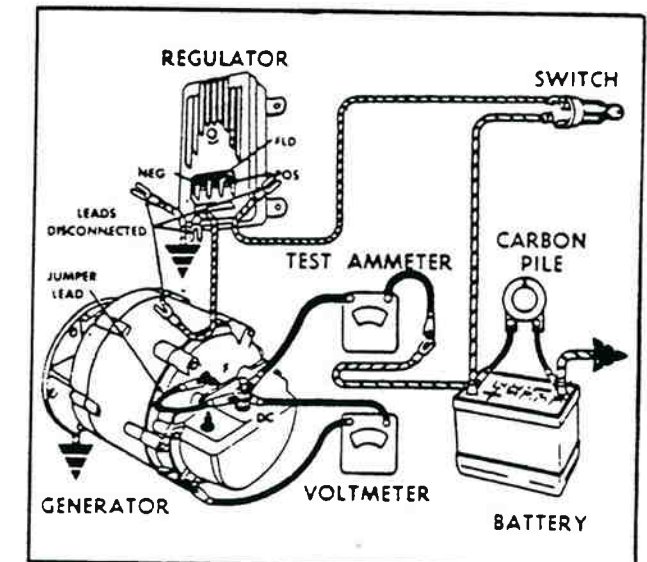

Figure 7-29. Alternator Output Test Setup.
6. See figure 7-29 for wiring connections.